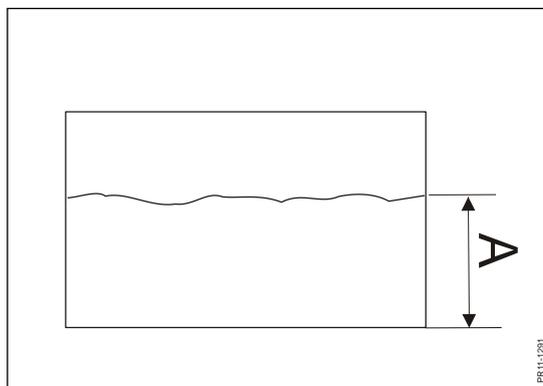

Fig. 4-8
- Fig. 4-8 Oil level:** **Control** the oil level in the tank **daily**. The tank can hold 25 litres of oil, but should only be filled with the prescribed 20 litres. The oil level is measured from the bottom of the tank.